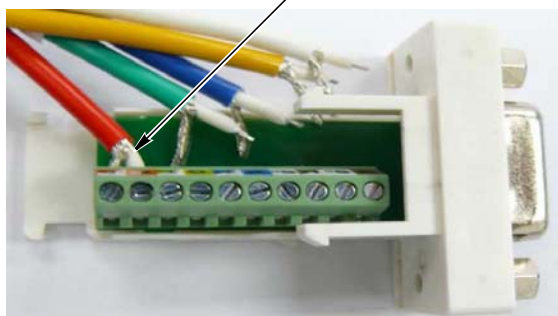

Figure 5
4. Insert each conductor into a slot of the screw terminal according to color coding of the wiring diagram given in Figure 5. It is recommended starting with the shortest wire and moving upward. Tighten each screw to secure the wire. See Figure 5.